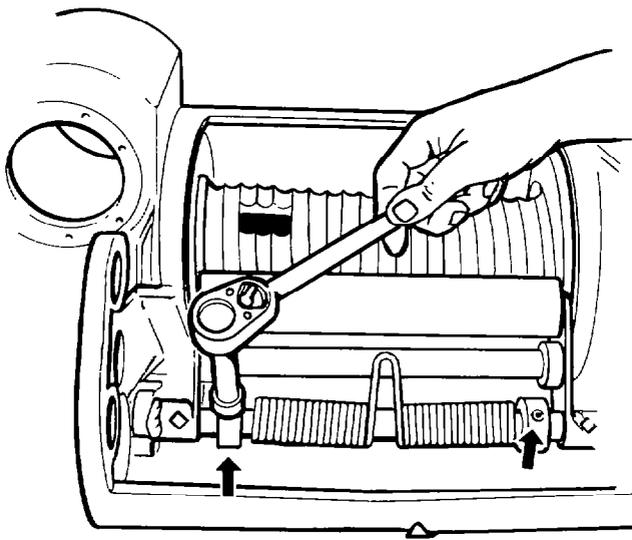

Figure 138 Guide Shaft Grub-screws
- t. Remove the grub-screw from the spring collars on either side of the spring (see Fig 138); use a suitable soft drift and hammer to drive the shaft from the winch housing; remove the pressure roller assembly from the winch.
- e. Insert the free ends of the spring into the spring collars, rotate the collars and spring until the detents in the shaft are aligned with the grub-screw holes in the collars; install and tighten the grub-screws (see Fig 138); ensure that the grub-screws lock securely into the detents in the shaft.